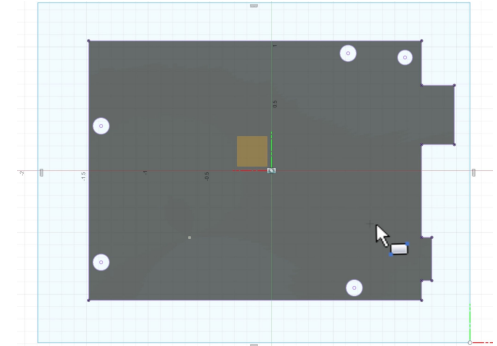

Figure 1.5
- Once projected, draw a '**rectangle**' around the Arduino to represent the base of the box (see Figure 1.5).